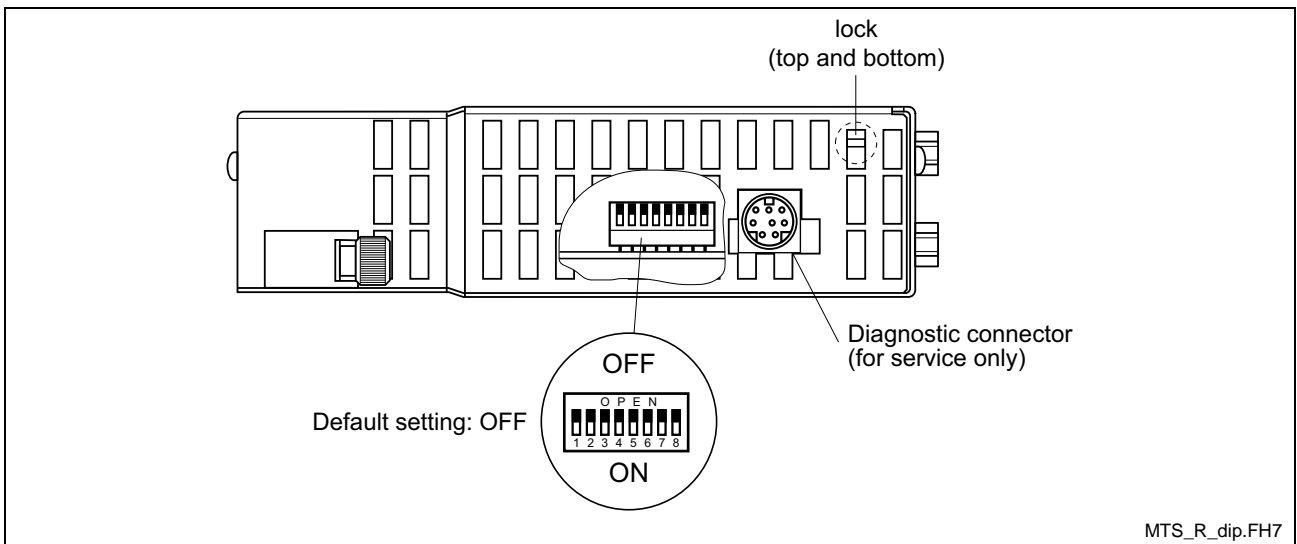

Fig. 2-23: DIP Switch setting for PROG Port X10
5. Set the device address for the MTS-R to match the rotary switches located above the X10 connector of the MTS-R. Refer to Fig. 2-23 for an illustration.